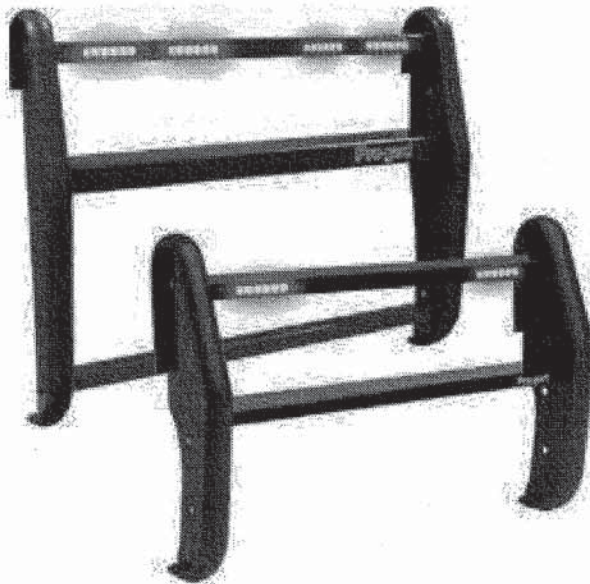

Figure 27B – Pro-Guard - Universal push bumpers with integrated, Whelen® ION™ LED lightbars
- b. Pro-Guard - Universal Push Bumpers with Integrated, Whelen® ION™ LED 2 lightbars (Figure 27B).